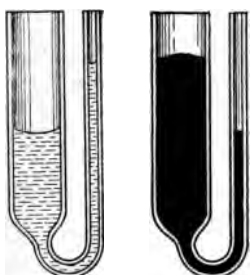

FIG. 76. — Capillarity in small tubes.
81. Capillarity. Suppose we have two U-tubes (Fig. 76) with their side tubes 80 mm. and 1 mm. in diameter. If we pour water colored with ink into the first tube, and mercury into the second tube, we observe